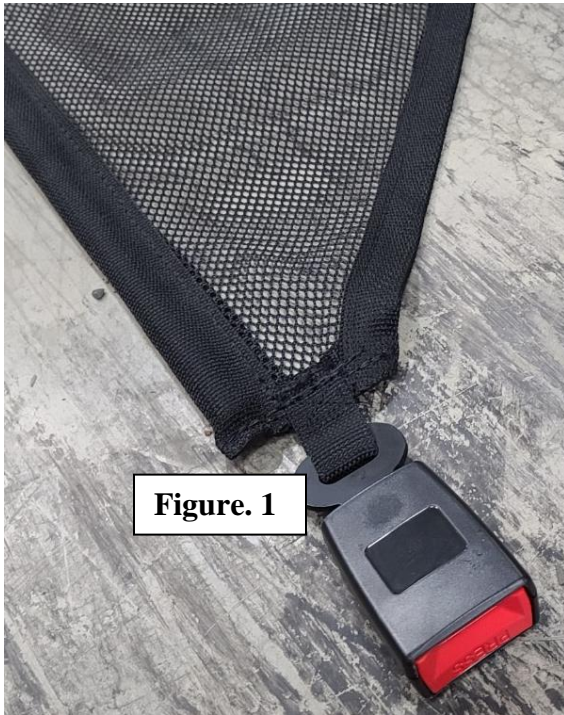
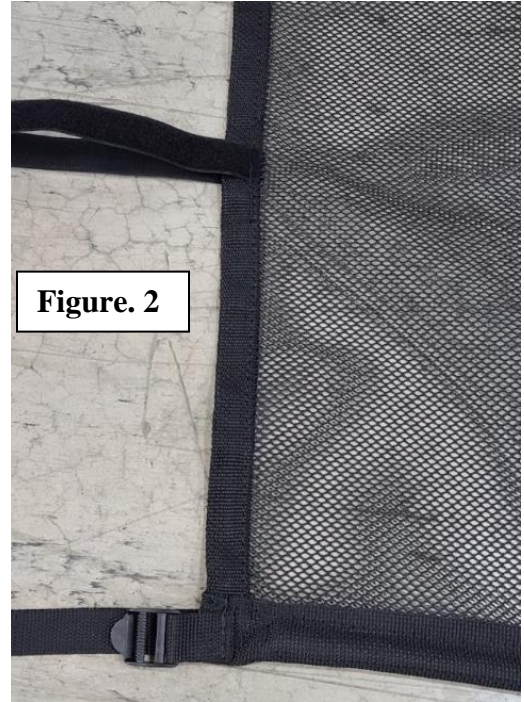

Figure. 1
Figure. 2
2. Lay the net out on the ground, with the red release button of the buckle on the ground (as seen in Fig. 1), the ladder locks should also be on the top (as seen in Fig. 2). The passenger net will point to the right (as seen in fig. 3), the driver net shall be opposite. Figures on next page.